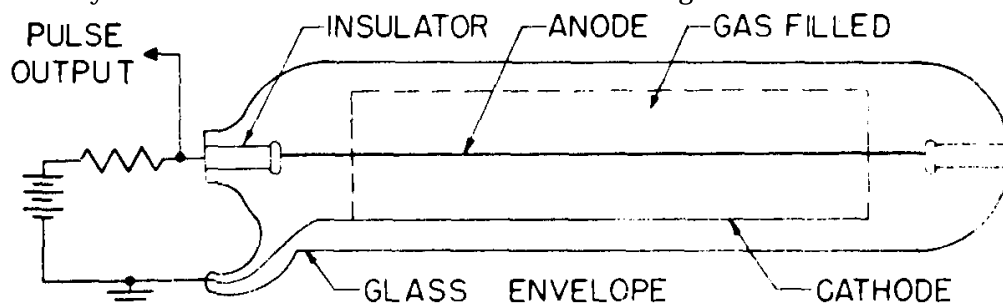

Figure 2-1. Typical Geiger - Muller Tube
c. DETECTION OF RADIATION--The ability of alpha, beta, and gamma radiations to ionize gases is the characteristic most frequently used to detect the presence of radiation. A simple device for such detection is the G-M tube (figure 2-1). The tube is filled with a gas mixture at